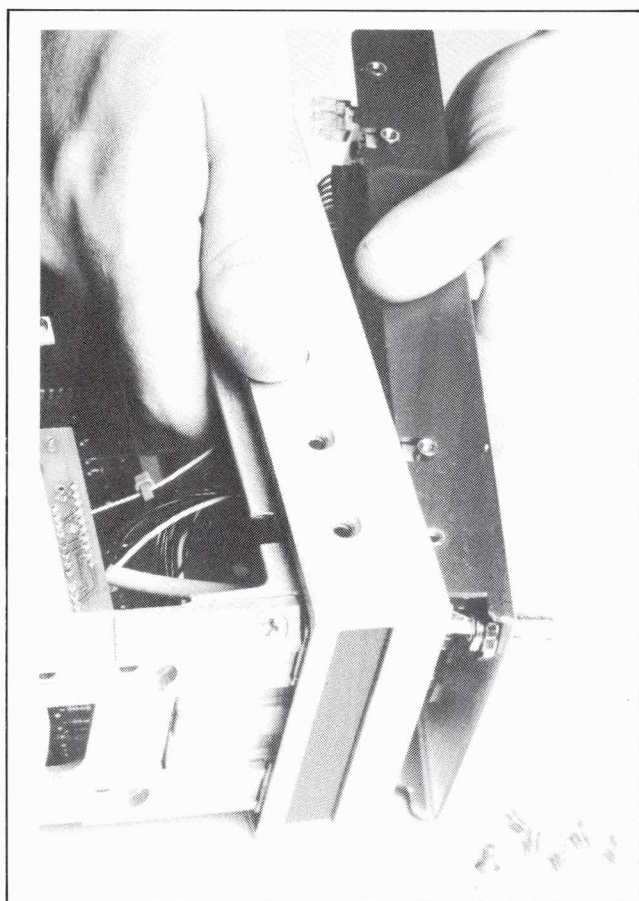

Figure 5-15. Front Panel/Front Casting Separation.
- Separate front panel assembly from front casting (Figure 5-15).